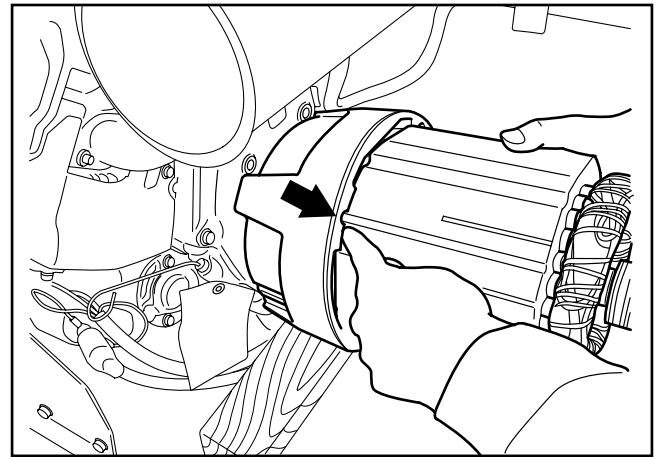

Fig. 9-8
- (1) Put the stator in the rear cover setting the four grooves on the side of stator with thread holes of the rear cover. Tighten the four bolts tentatively to check if the grooves and thread holes are aligned correctly. (See Fig.9-8)
- (2) Remove the four bolts.